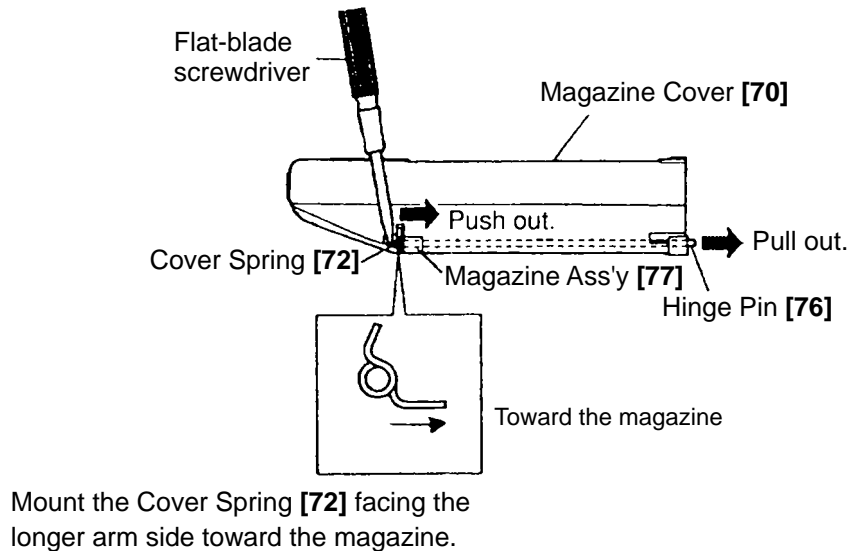

Fig. 17
- Perform disassembly according to 10-2-(3) to remove the Nose [26], Guide Plate [28] and the magazine section.
- Continuously turn the Adjuster [52] in the direction in which the staple is raised when adjusting the driving depth so that Pushing Lever (A) [54] can be removed.
- Push out the Hinge Pin [76] with a flat-blade screwdriver as shown in Fig. 17. Holding the top of the Cover Spring [72] with fingers, pull out the Hinge Pin [76]. Then the Magazine Ass'y [77] and the Magazine Cover [70] can be removed.
- Mount the Cover Spring [72] facing the longer arm side toward the Magazine Ass'y [77] as shown in Fig. 17.